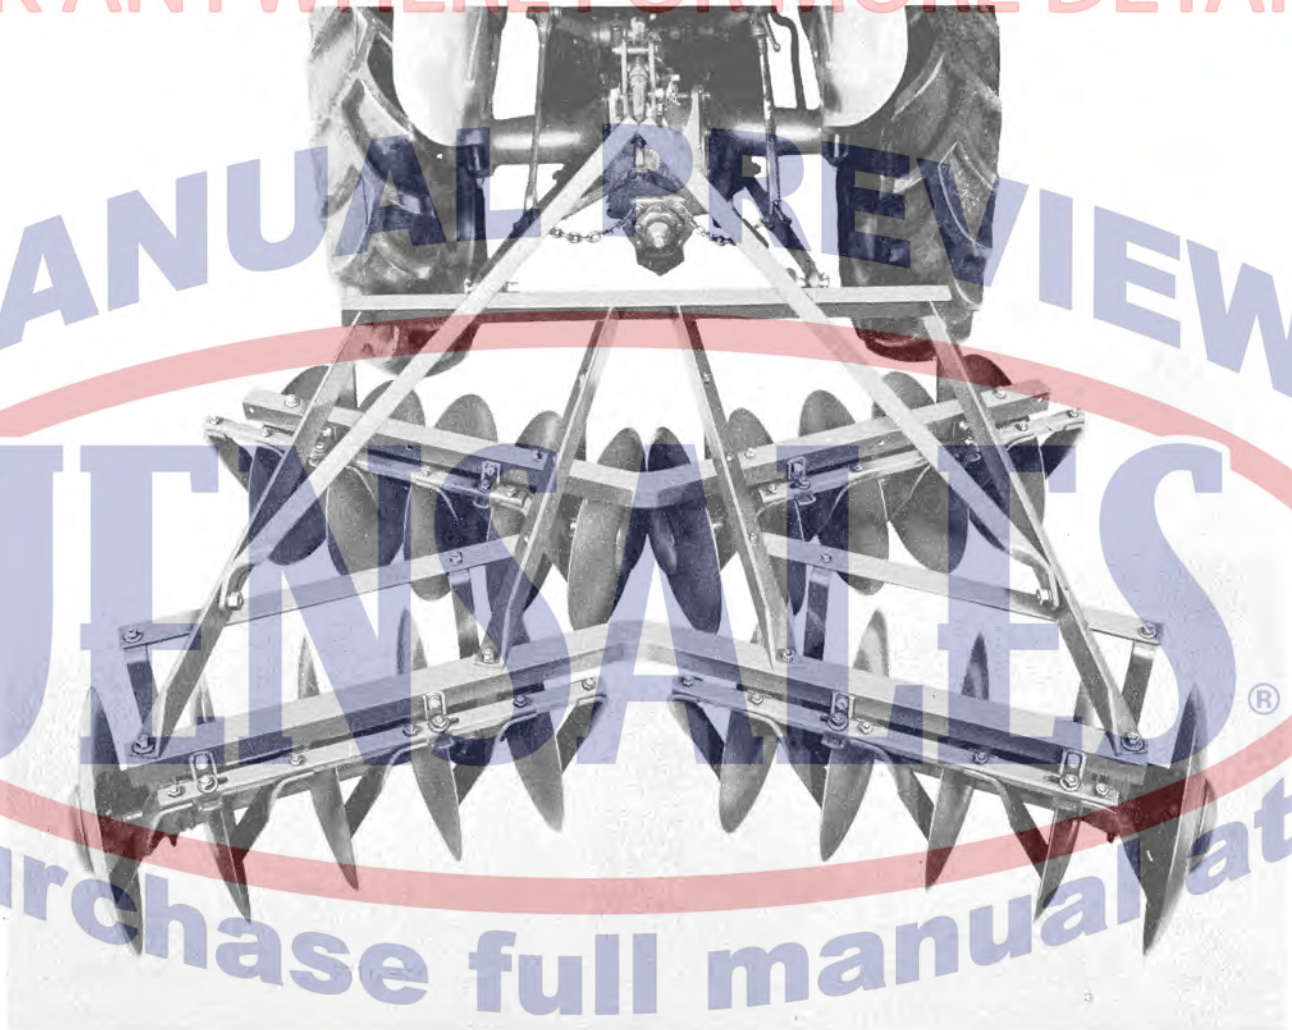

Figure 6
8. Position the front disc gangs under the frame and bolt the hangers to the frame as shown in Figure 6.
10. Position the rear disc gangs under the frame and bolt the hangers to the frame. See Figure 6. Complete the attachment of one rear gang before starting to attach the second gang.